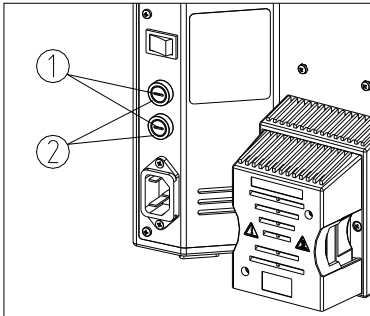

Fig.41
Turn the main switch to “O” (OFF) before replacing the fuse. Pull out the power cord. Screw out the fuse group ① from the fuse base ②, with a “-” type screwdriver. Install a new fuse and screw it back into the fuse base thoroughly (See Fig. 41).